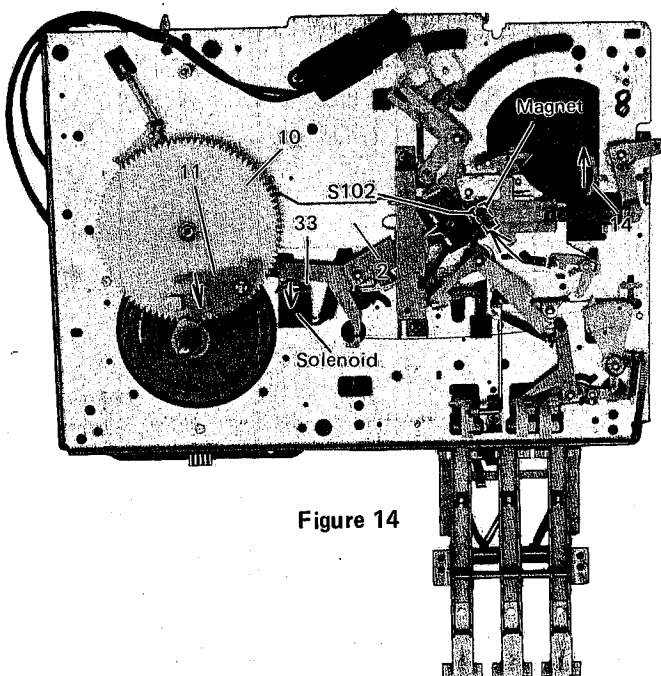

Figure 14
- (6) Main Gear (10) continues rotation and slides back Return Lever (2), returning Repeat Cam (15) with Repeat Click for Return Lever (6) and stopping at non-g geared position of Main Gear (10). Record playing starts. (Figure 14)
- (1) When the Stylus comes to final groove of the record disc, the Magnet on the Pickup Plate Assembly comes closer to Proximity Switch (S102) and turns it on.
- (2) The Solenoid pulls Reject Lever (33) to push out Auto Clutch (11). (Figure 14)